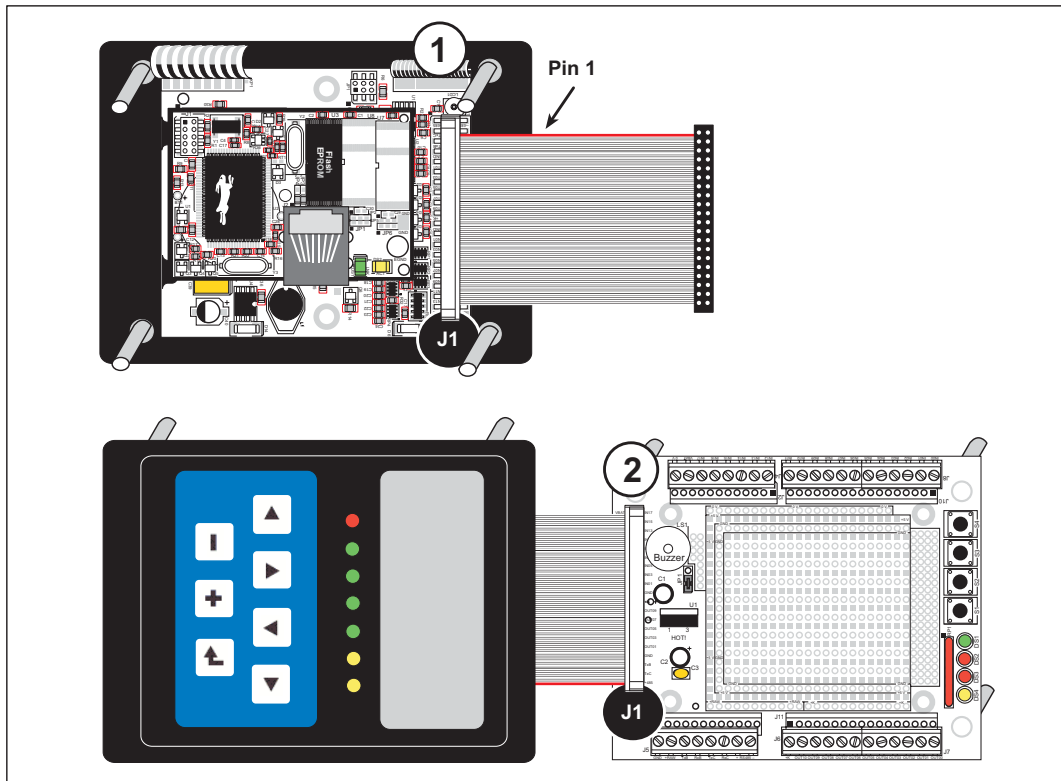

Figure 3. Connect the OP6800 to the Demonstration Board
2. Connect the OP6800 to the Demonstration Board from the Tool Kit using the ribbon cable connector as shown in Figure 3. First, connect the ribbon cable to header J1 on the OP6800, then turn the OP6800 over and connect the other end of the ribbon cable to header J1 on the Demonstration Board. By connecting the boards this way, you have the option of placing the Demonstration Board behind your OP6800 in your final installation as explained in Appendix C.